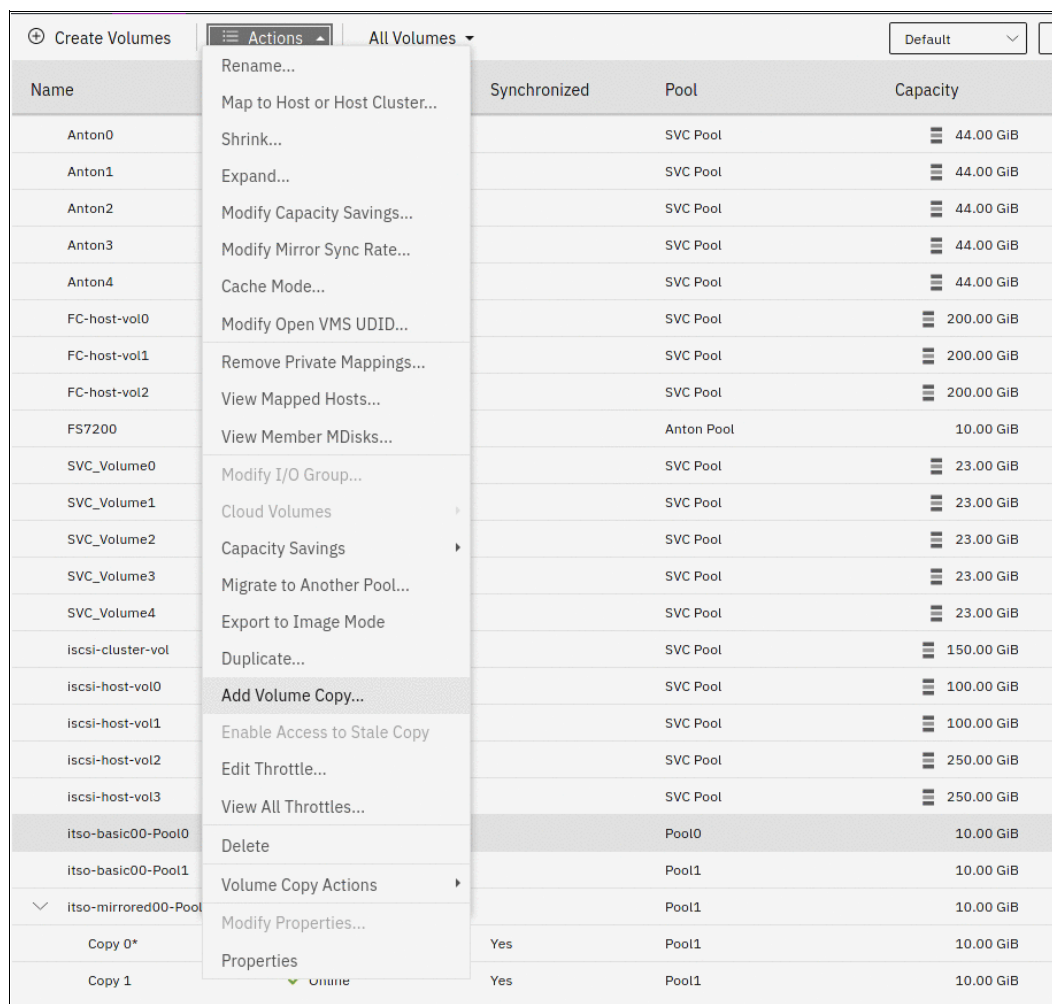

Figure 6-79 Add Volume Copy menu item
1. Select the volume that you want to move, and select **Actions** → **Add Volume Copy**, as shown in Figure 6-79.